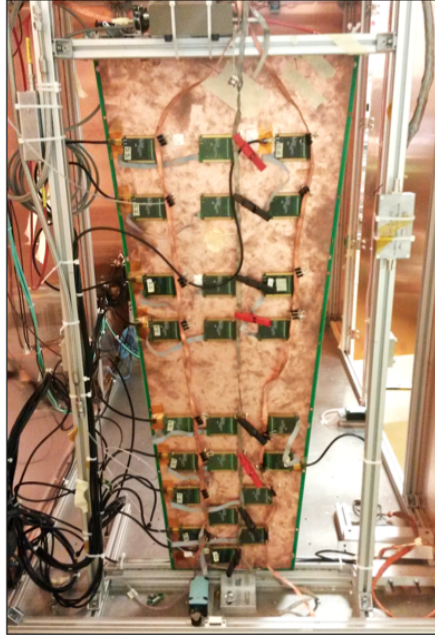

Figure 5.4: Picture of the GE1/1 chamber inside of the X-ray station.
5. Carefully place the detector inside of the X-ray station: the orientation of the detector should have the short base of the trapezoid closest to the floor, with the readout PCB facing away from the X-Ray generator, as shown in Fig. 5.4.